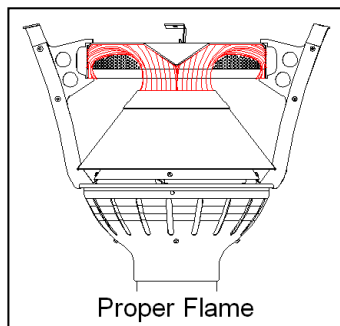
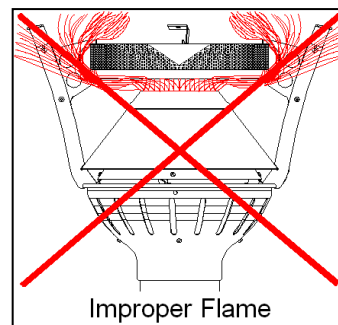

Figure 44: Proper Flame Pattern
Figure 45: Improper Flame Pattern
- Visually check the burner flame pattern during use, a proper flame should resemble Figure 44, if at any time flames extend beyond the emitter surface (see Figure 45) or black soot is found on the inside of the reflector TURN OFF the heater immediately and place OUT OF SERVICE until repairs are made.